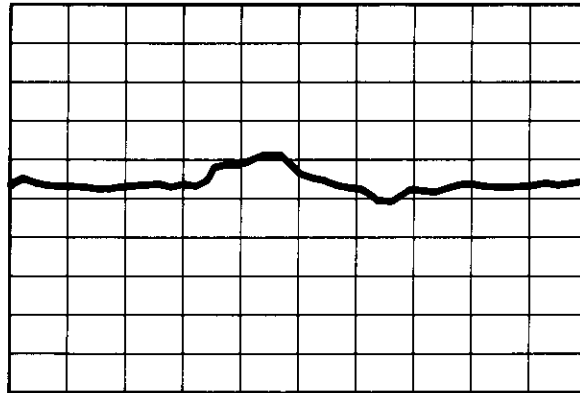

Figure 4-6. Residual FM Signal as displayed on a Spectrum Analyzer
- 4A. Press [CENTER FREQUENCY] and use the RPG (Rotary Pulse Generator) control to keep the signal between the 5th and 8th division from bottom screen. Refer to Figure 4-6.